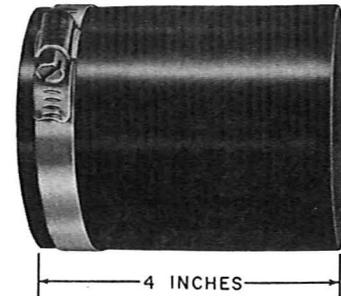

Fig. 1—B Cable Cap
2.01 The cable caps (Fig. 1 and 2) are made in two types. The B Cable Cap has no air valve; the C Cable Cap has an air valve to permit pressure testing. Each cap weighs 7 ounces or less, and consists of a molded neoprene cup with an adjustable stainless steel hose clamp for constricting it to fit the cable.